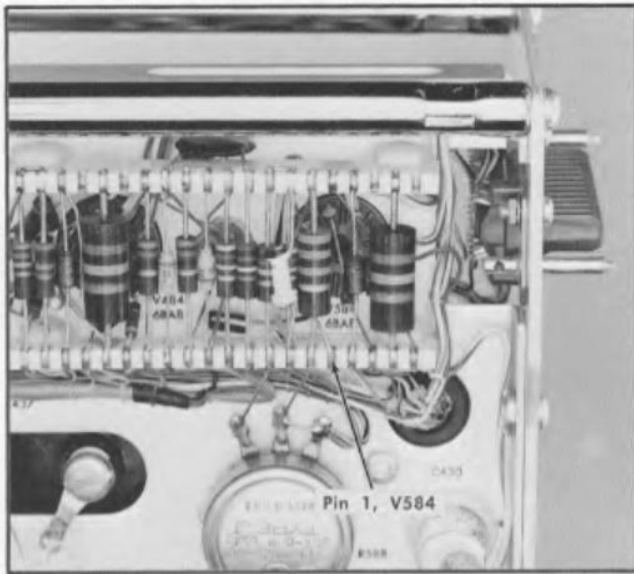

Fig. 6-8. Location of pin 1, V584.
- d. Connect the positive voltmeter lead to pin 1, V584. See Fig. 6-8.